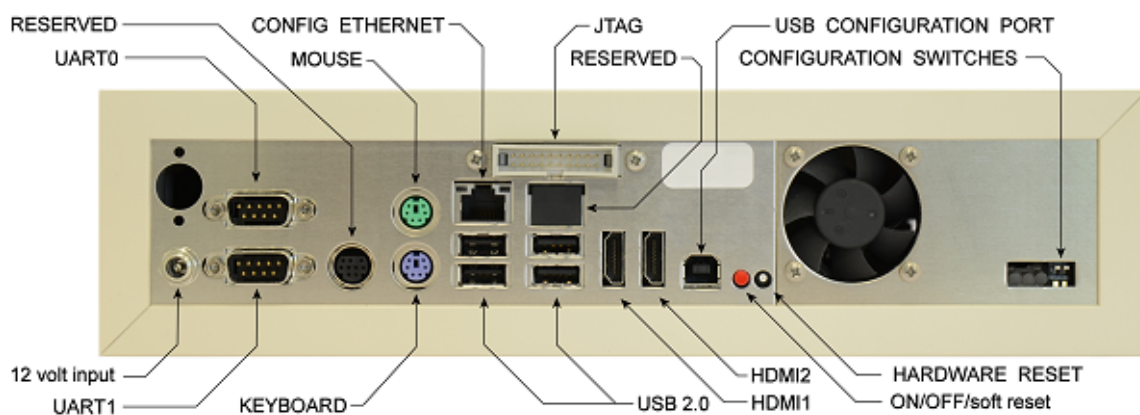

Figure 1-2 V2M-Juno motherboard rear panel
Figure 1-2 shows the rear panel of the V2M-Juno motherboard.
The rear Ethernet port is not enabled in hardware on Juno r0. On Juno r1 it is enabled and connected over the PCI Express bus. See Figure 1-2 on page 1-3.
On the back panel (see Figure 1-2 on page 1-3).
1. Connect a serial terminal to the top 9-pin UART0 connector on the rear panel (see Figure 1-2 on page 1-3).
If it does not, ensure that both configuration switches are in the top position and reset the V2M-Juno motherboard using the hardware reset button on the rear panel (see Figure 1-2 on page 1-3).